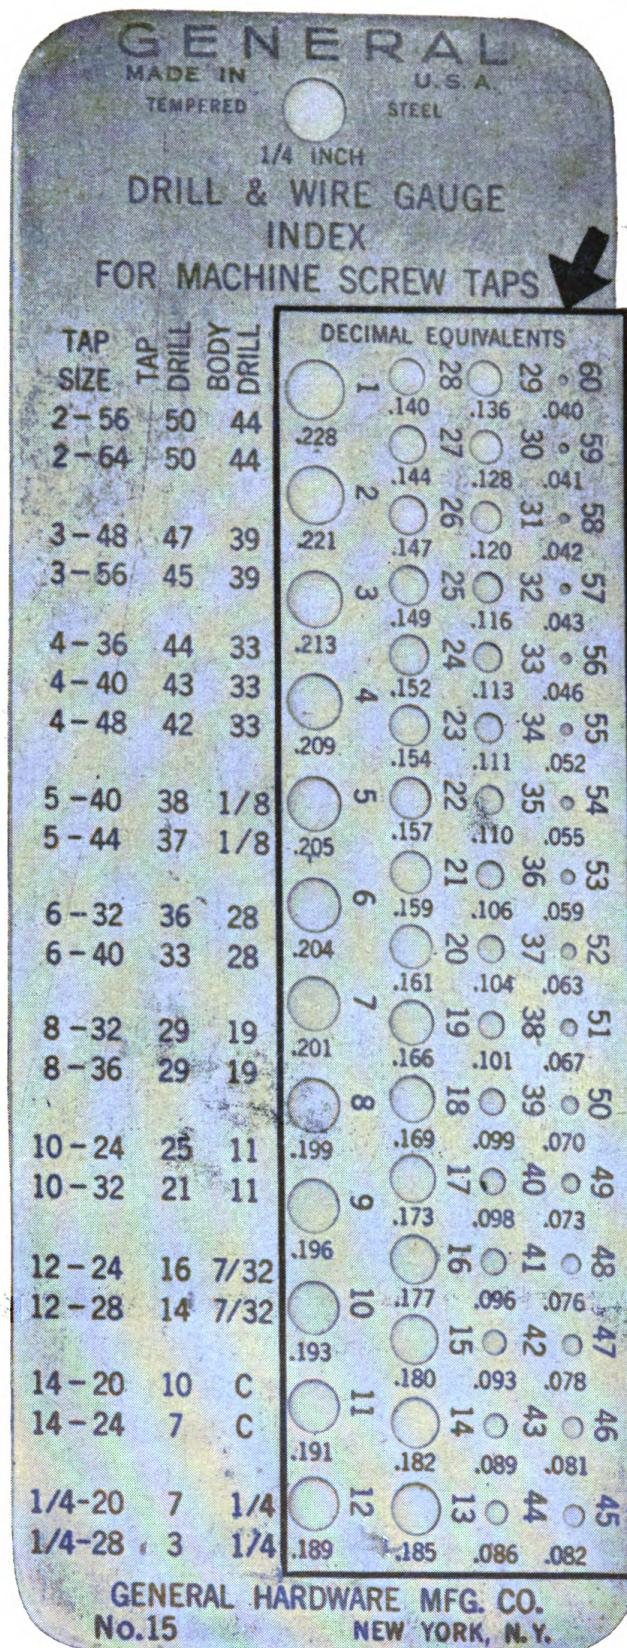

Figure 59. Twist-drill gauge.
d. TWIST-DRILL GAUGE. A twist-drill gauge is a circular or rectangular plate with a series of round holes in it. (See fig. 59.) These holes correspond in size to a series of drills. When it is necessary to drill a hole that a piece of wire or similar stock will fit into, the proper size of drill can be selected by trying the stock in the drill gauge. The gauge is also used to determine the size of a drill when the size mark on the shaft of the drill cannot be read.